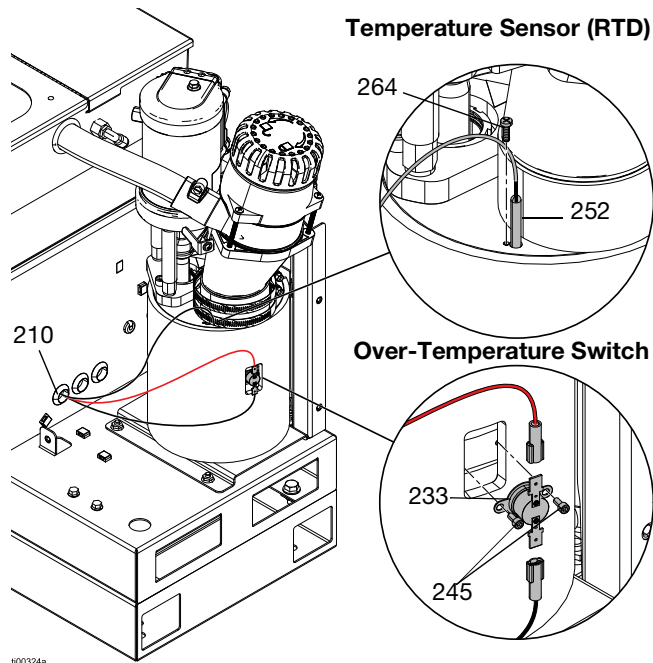

FIG. 72: Temperature Sensor and Over-Temperature Switch Locations
See FIG. 72 for details.
- Disconnect the melter temperature sensor (252). Reference FIG. 72.